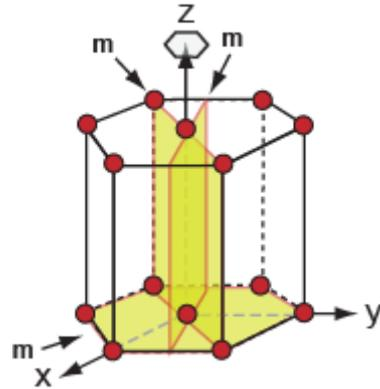

Figure C27. Answer to exercise E11.
**E11.** The hexagonal axis and the mirror planes are shown in Figure C27.